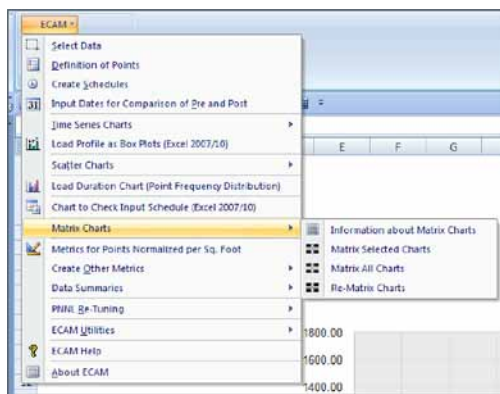
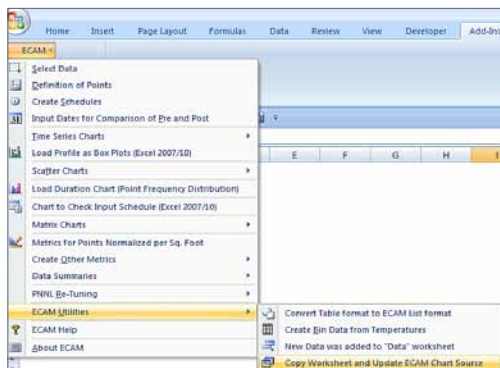

Figure 53: Matrix Charts Dropdown Menu
Figure 54: ECAM Utilities to Copy Worksheet and Update ECAM Chart Source
Another useful tool in ECAM is the matrix charts option as seen in the dropdown menu (Figure 53). The top selection gives some basic information about what the matrix charts option provides, then there are three options below that: matrix selected charts, matrix all charts, and re-matrix charts. The matrix selected charts gives the user the ability to select whatever charts they want and place them all in the same page for comparison purposes. The matrix all charts takes every chart created in the workbook and places them in the same sheet for comparison. To demonstrate this, consider the Point History Charts discussed in Chapter 4.1. The first step is to create the point history if not already created. You can select a specific month, week, or day. Once the chart is done, use the ECAM utilities shown in Figure 54 to “Copy Worksheet and Update ECAM Chart Source.” This will make an exact copy of the worksheet, and keep the Pivot Table linked to the data. Now you can change the filter to the next month, week, or day. You will also want to rename the worksheet, because ECAM will make the new sheet the same name as the old sheet, but add a (2) to it. It is always a good idea to name each sheet to your own preference to remember what charts have been created.